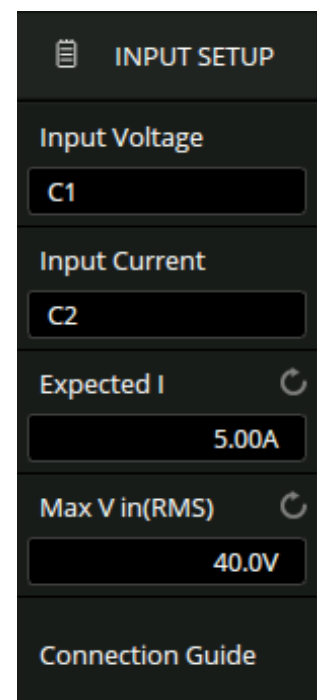

Figure 19.8 Input Setup Menu
1. Touch **Input Setup** to display the signal menu shown in figure 19.8.